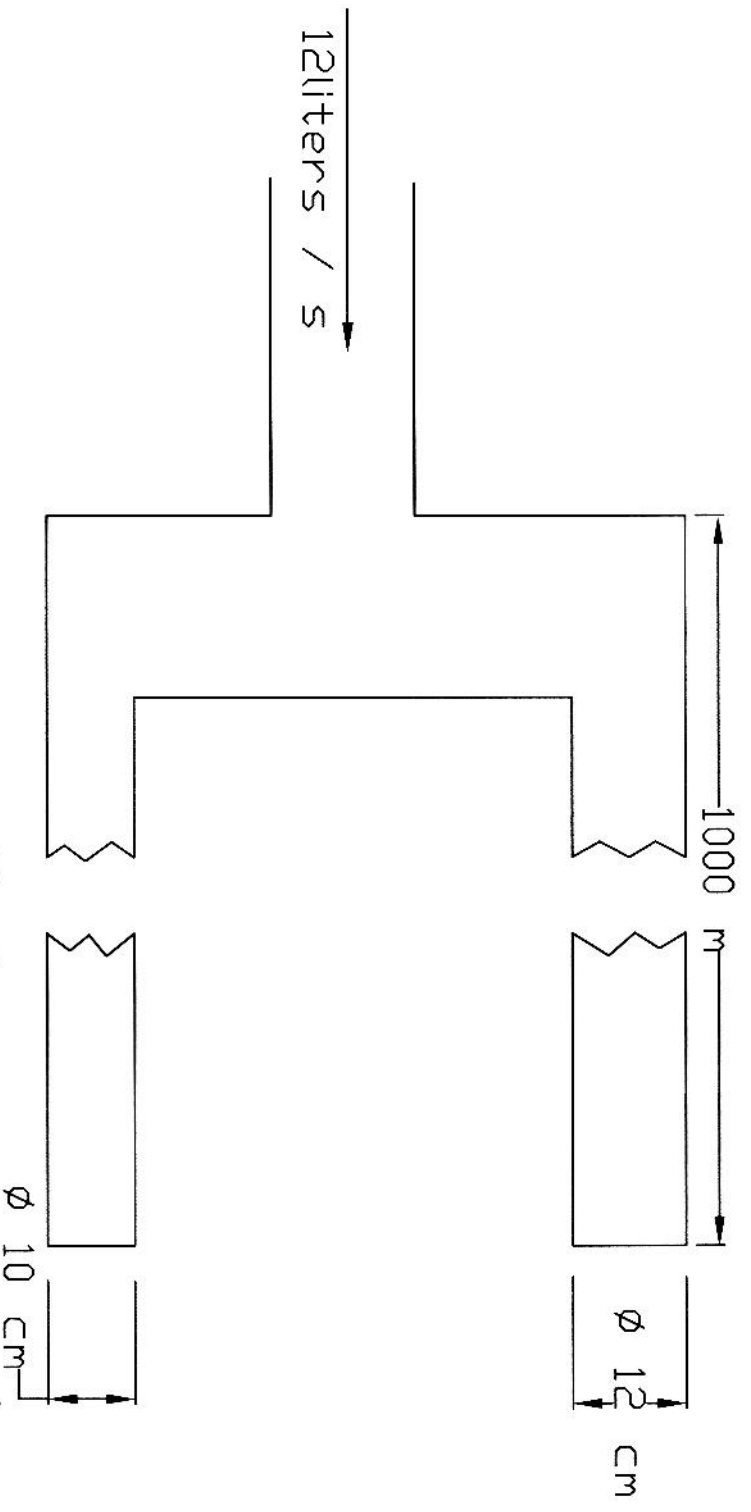

Fig 3
- 5(a) Prove that pressure gradient in the direction of flow is equal to shear stress gradient normal to the motion in laminar flow. (4)
- (b) Derive the expression of Hagen-Poiseuille's equation (8)
- (c) 12 liters / s of oil is pumped through two pipes , one is 12 cm diameter and other is 10 cm diameter , both being 1000 m long as shown in Fig 3 . The kinematic viscosity of the oil is  $9\text{ cm}^2 / \text{s}$ . Calculate the flow rate through each pipe and the head loss in the pipe in m of oil. Assume pressure drop in each pipe is equal and flow is laminar. (8)
- 6(a) State and explain Buckingham's PI ( $\pi$ ) theorem. (6)
- (b) Discuss briefly the selection criteria of repeating variables for Buckingham's PI ( $\pi$ ) theorem . (6)
- (c) The efficiency  $\eta$  of a fan depends on the density  $\rho$ , the dynamic viscosity  $\mu$  of the fluid, the angular velocity  $\omega$  , diameter D of the rotor and discharge Q. Using Buckingham's Pi ( $\pi$ ) theorem express  $\eta$  in terms of dimensionless parameters. (8)